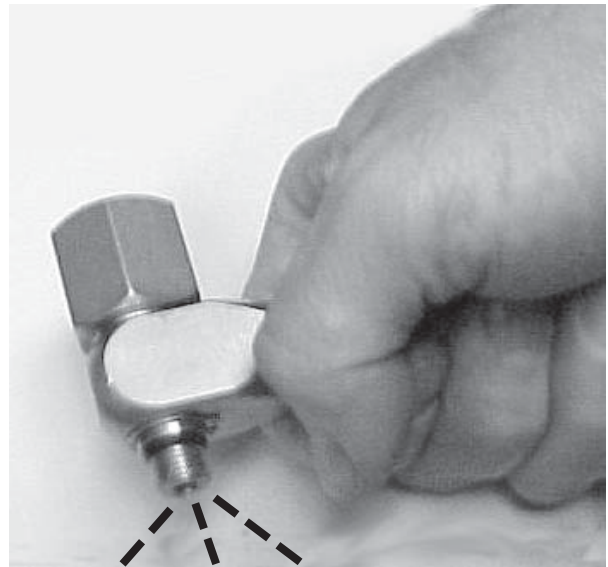

figure 12
7.2. Hold one of the fill hoses (HOS1) firmly and point the opening away from people (figure 12).